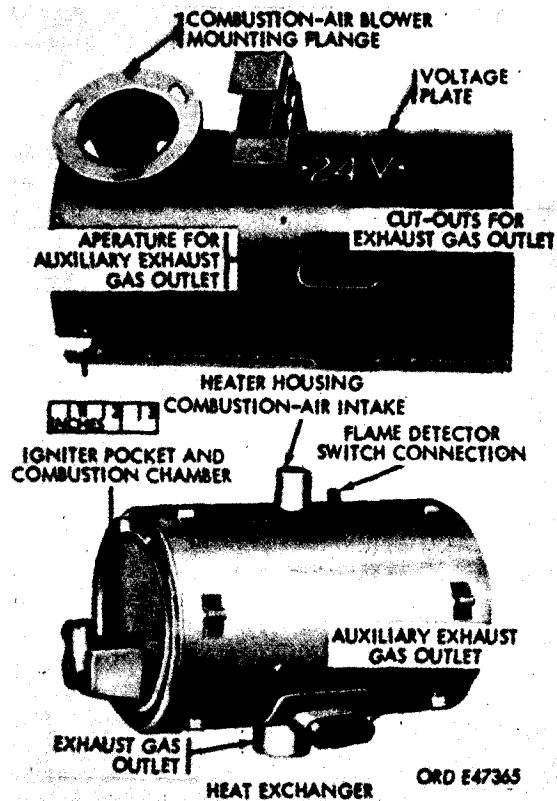

Figure 576. Heater housing and heat exchanger
(3) Heat exchanger (fig. 576).
- (4) Heater housing (fig. 576). The one-piece heater housing fits around the heat exchanger. A formed edge extends the full length of the housing at the centerline of the exhaust tube, to simplify removal and replacement.